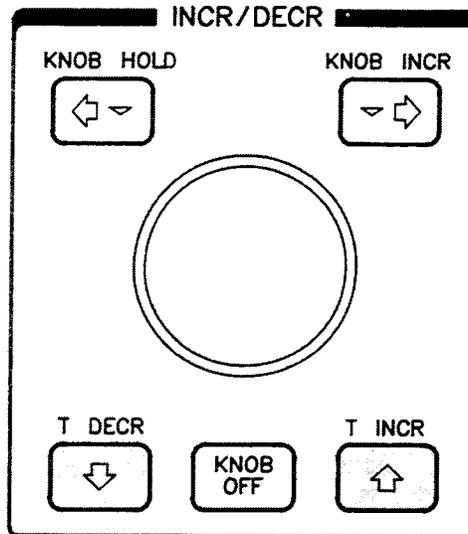

Figure 4-4. Increment/Decrement Keys for Start, Stop, Center, and Span.
- Press one of the increment or decrement front-panel keys shaded in figure 4-4: